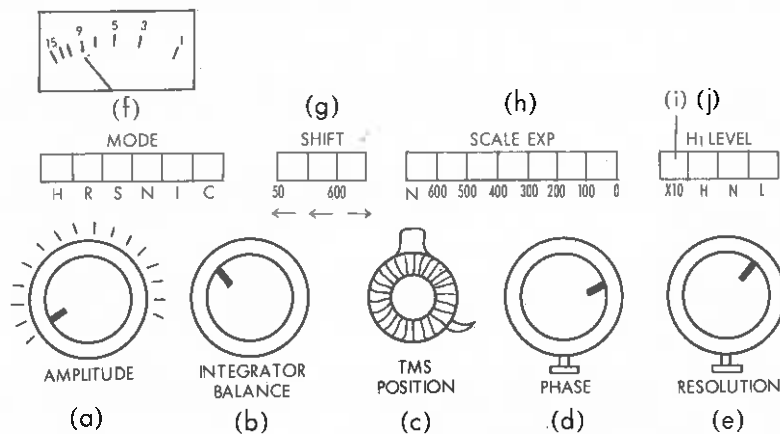

FIGURE 12 CONTROLS ON THE MAIN PANEL
2.3.2 CONTROLS ON THE MAIN PANEL (See figure 12 on the fold-out previous page)